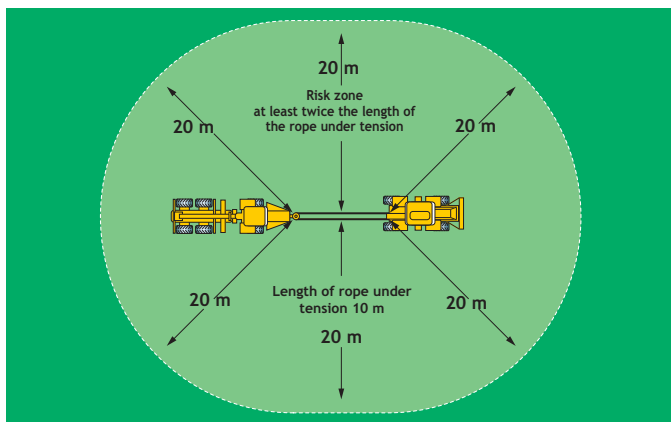

Figure 3 Debuggging operation risk zone
- 19 During winching a risk zone of twice the length of the rope under tension should be set up (see Figure 3).
- ☐ 44 All staff, apart from the machine operators and operators of manually powered winches or some remote-controlled winches, must remain outside the risk zone (see Figure 3) during winching. Operators in the machine cabs must be protected by approved safety cab structures fitted with safety glass or mesh.